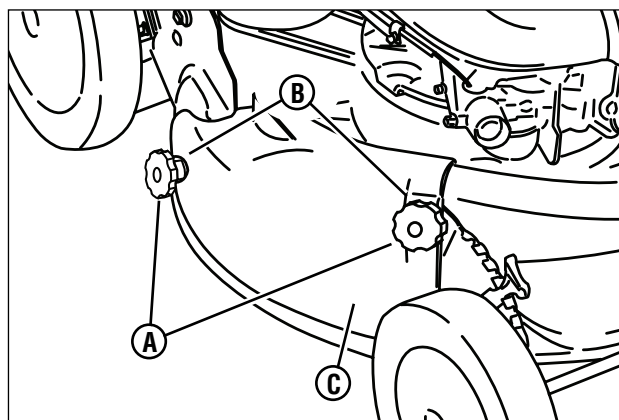

Figure 9: Removing the recycling cover
1. Remove the knob nuts (A, Figure 9) and internal/external tooth lock washers (B) securing the recycling cover (C) to the mower deck.